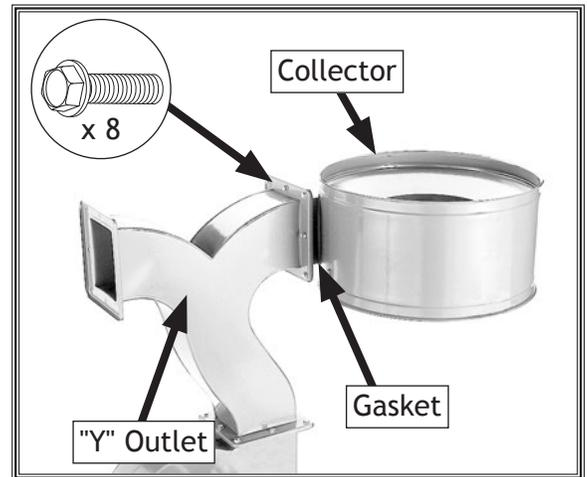

Figure 10. Collector installed.
- With assistance, place one of the rubber gaskets around the rim of the intake on one of the collectors, then secure the collector to the metal "Y" outlet with (8) $\frac{5}{16}$ "-18 x $\frac{1}{2}$ " flange bolts (see **Figure 10**).